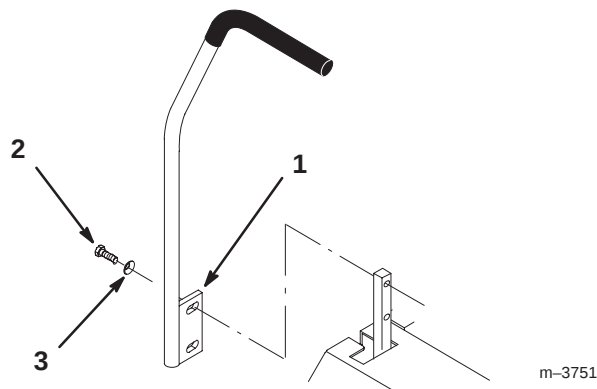

Figure 3
1. Remove the (4) 3/8-16 x 1" (26 mm) bolts and (4) 3/8" spring washers which attach the motion control levers to the control arm shafts for shipping (Fig. 3).
2. Place the levers (with the mounting plate toward the rear) on the outside of the control arm shaft and secure with (4) 3/8-16 x 1" (26 mm) bolts and (4) 3/8" spring washers (Fig. 3).
4. Align the front/rear position of the levers, with each other, in the neutral position. Loosen hardware and adjustment by sliding/tilting the lever(s) forward or backward until properly aligned (Fig. 3).